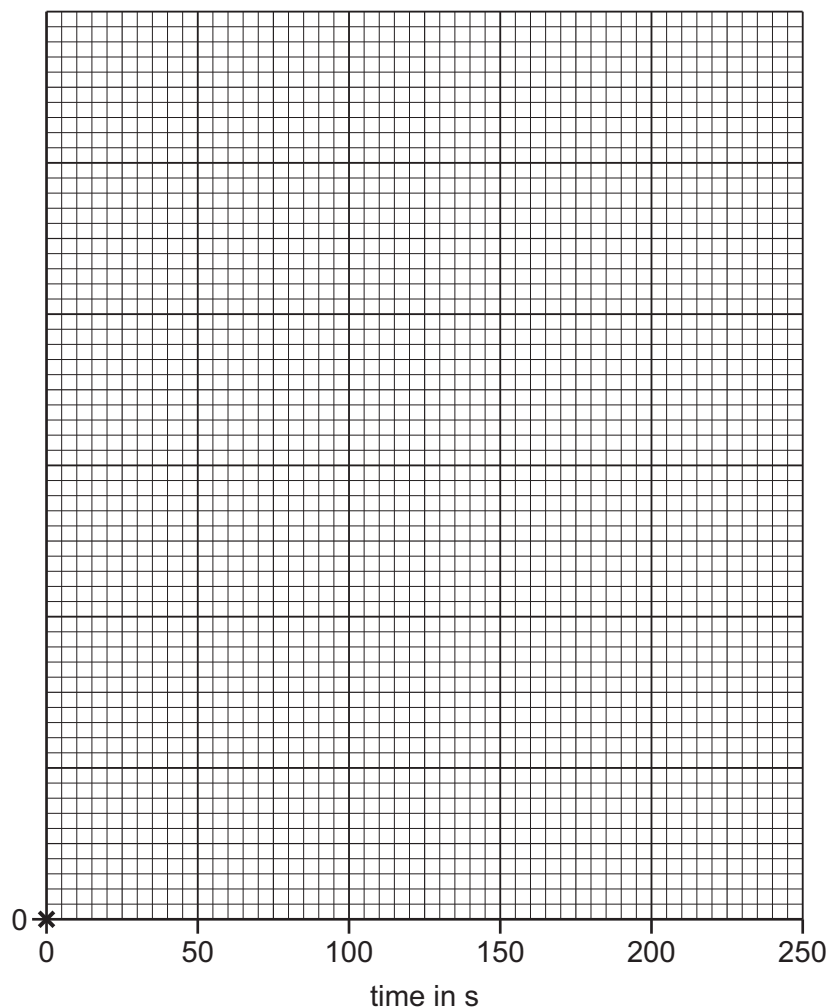

Fig. 1.1
- (b) Complete a suitable scale on the y-axis, and plot your results for Experiment 1 and Experiment 2 on Fig. 1.1. The point at (0,0) has been plotted for you.
- (c) Extrapolate the curve for Experiment 1 on your graph in Fig. 1.1 to deduce the temperature change since time = 0 s in Experiment 1 after 240 seconds.
Show clearly **on Fig. 1.1** how you worked out your answer.